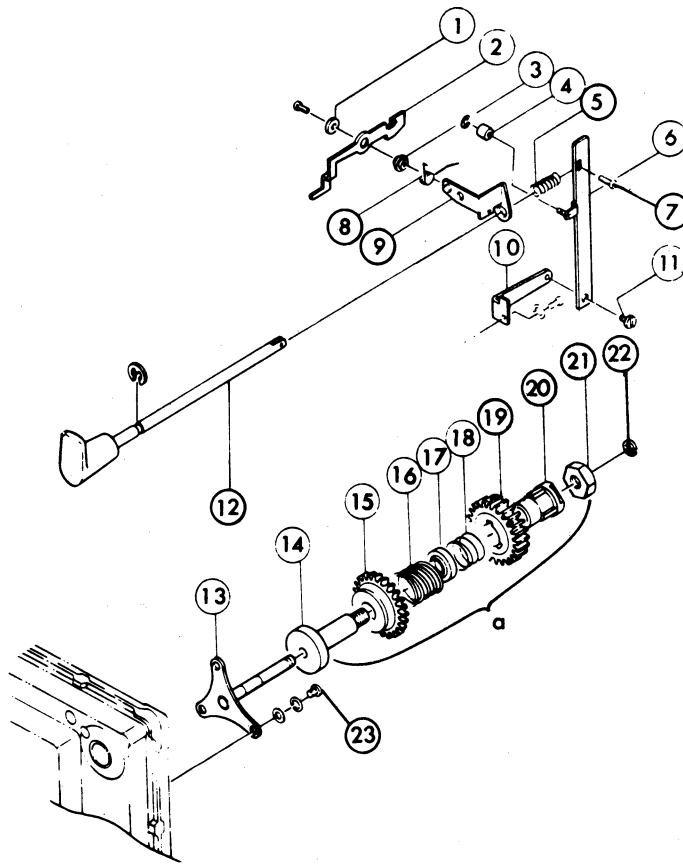

Fig. 10
- b. Remove Fig.10-22 and Pull out (a) in Fig.10 as assembled parts.